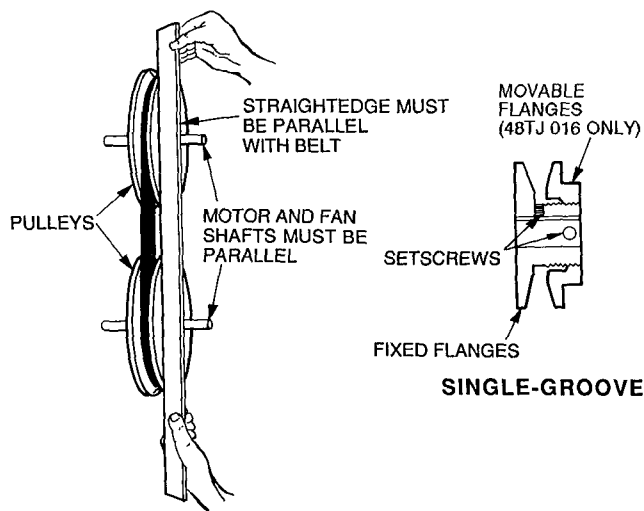

Fig. 27 — Evaporator-Fan Alignment and Adjustment
3. Loosen movable-pulley flange setscrew (see Fig. 27).
To align fan and motor pulleys (see Fig. 27):